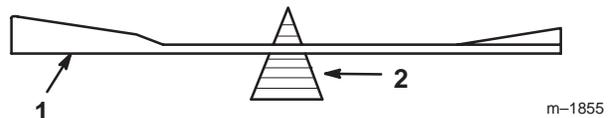
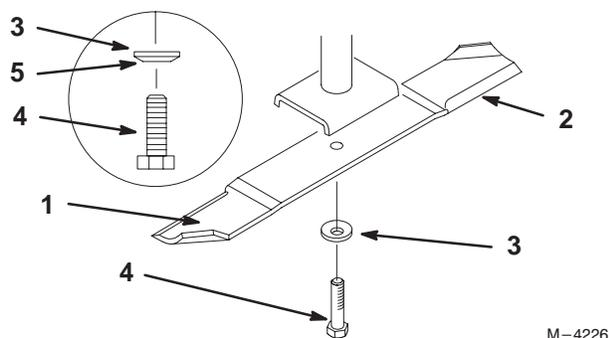

Figure 19
Figure 20
1. Hold the blade end using a rag or thickly-padded glove. Remove the blade bolt, spring disk and blade from the spindle shaft (Fig. 20).
2. Check the balance of the blade by putting it on a blade balancer (Fig. 19). If the blade stays in a horizontal position, the blade is balanced and can be used. If the blade is not balanced, file some metal off the end of the sail area only (Fig. 20). Repeat this procedure until the blade is balanced.
1. Install the blade onto the spindle shaft (Fig. 20).
2. Install the spring disk and blade bolt. The spring disk cone must be installed toward the bolt head. (Fig. 20). **Torque the blade bolt to 85–110 ft-lb (115–150 N•m).**